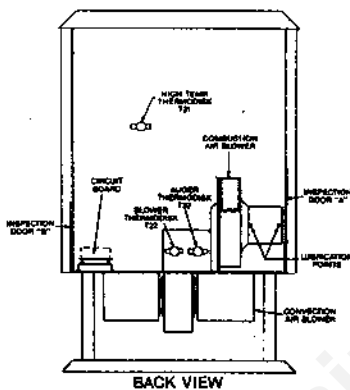

FIGURE 9
b. **Oiling** — Blower manufacturers suggest oiling annually. See figure 9 for lubrication points. Use SAE 20W oil. **NOTE:** The convection (forced air) blower should *not* be oiled.
When your stove acts out of the ordinary, the first reaction is to call for help. This guide may save time and money by enabling you to solve simple problems yourself. Problems can be due to only four factors: 1) poor fuel; 2) poor operation or maintenance; 3) poor installation; 4) component failure. You can usually solve those related to 1 and 2. Your dealer can solve those in 3 and 4. Refer to figures 9, 10 and 11 to help locate indicated parts. **REMINDER: Pull plug before servicing, unless otherwise instructed.**